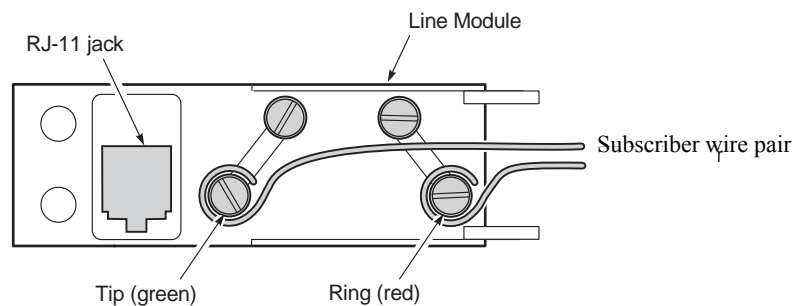

Figure 9. *Attaching the Subscriber Wire Pair*
- 3 Connect the Tip conductor to the Line Module green terminal gas-tube protection binding post, connect the Ring conductor to the red terminal gas-tube protection binding post, then close the Line Module door (see Figure 9).